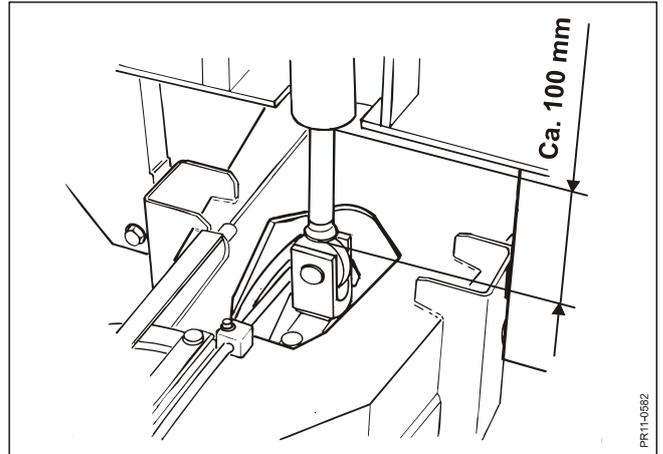

Fig. 4.2
**Fig. 4.2** The drive must be adjusted in such a way that when the cylinder for tipping of the tub is in the intermediary position the tub must be horizontal. This will ensure that the cylinder can counterbalance uneven ground conditions so that the tub is always horizontal during mixing and weighing.